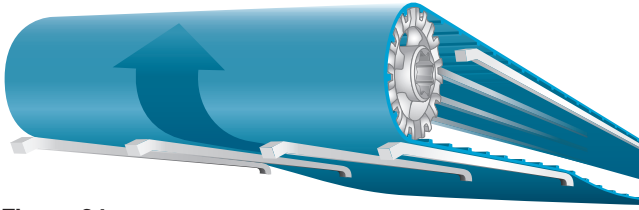

Figure 24
- ◇ Place support rails or similar at the returnway immediately before the pulley (Figure 24) to control belt position.